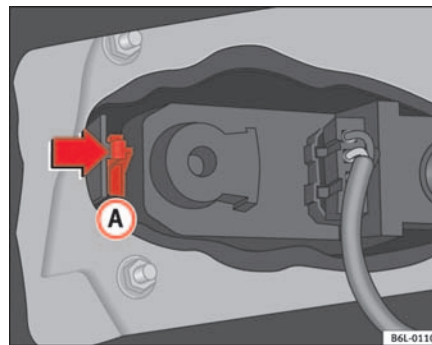

Fig. 155 Rear lights on frame
- Press the tab (A) ⇒ fig. 155 to release the lamp holder and remove it.